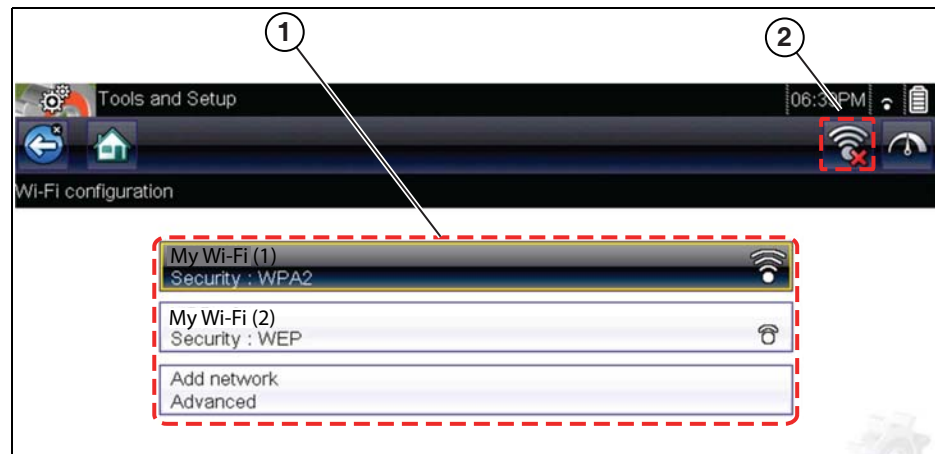

Figure 8-9 Wi-Fi Configuration Screen
3. Select your wireless network from the list (*typical list shown below*), then select **Connect**. (Figure 8-9).